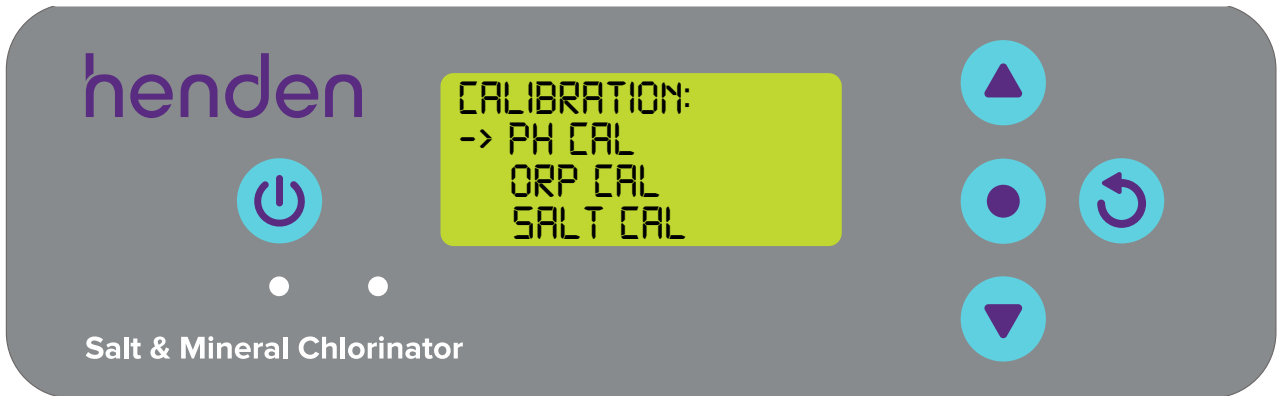

Figure 8.17
- Press the  **menu up/down** buttons to scroll down to PH CAL (refer figure 8.17). Then press the  **menu/setting select** button